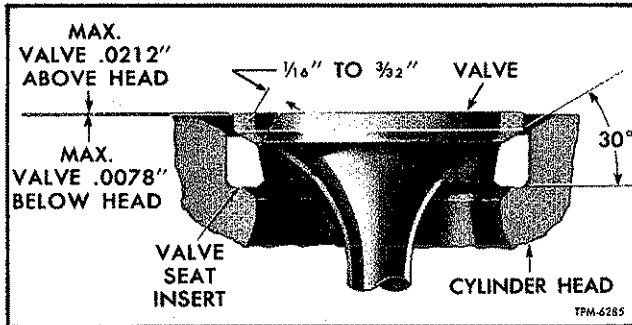

Figure 98—Installation of Valve and Valve Seat Insert—(Two Valve Head)
3. Grind top surface with 15° wheel to narrow width of seat to 1/16" to 3/32", see figures 98 and 99. The 30° face of the insert may be adjusted relative to the center of valve face with the 15° and 60° grinding wheels.
As shown in figures 98 and 99, a new valve must not protrude more than .0212" beyond the surface of the two-valve cylinder head or .006" beyond the surface of the four-valve head. After several re-conditions, the valve seat insert diameter will be increased so that the valve will recede into the head.